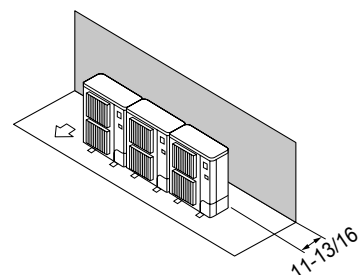

Fig. 2-12
- ① Obstacles at rear only (Fig. 2-12)